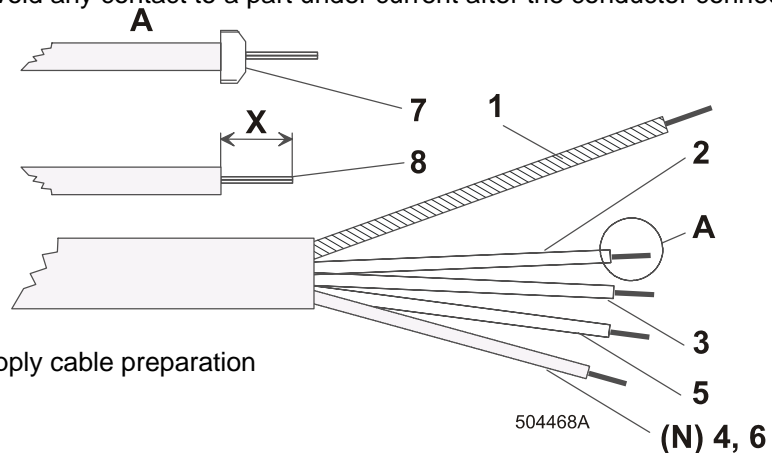

Fig. 4.4.C Supply cable preparation
Use a cable or cord with copper conductors. Adapt the conductor ends according to the description in fig. 4.4.C. A green-yellow conductor (protective) must be longer, so that in the event that a cable is pulled out accidentally, the conductor is the last to be disconnected. When using the cable (hard copper conductors), strip the individual cores in such a way to avoid the protrusion of a stripped part from the terminal when the conductor is connected into the device (7-dimension X). When using a cord (stranded copper conductors) the individual cores can be stripped in a similar way as in the case of a cable, or moulded tubes (6) can be used. In this case use tubes with an insulated neck to avoid any contact to a part under current after the conductor connection.